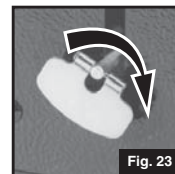

Fig. 23
- Shut off AUXILIARY BURNER(S) by closing AUXILIARY VALVE(S). (Fig. 23)